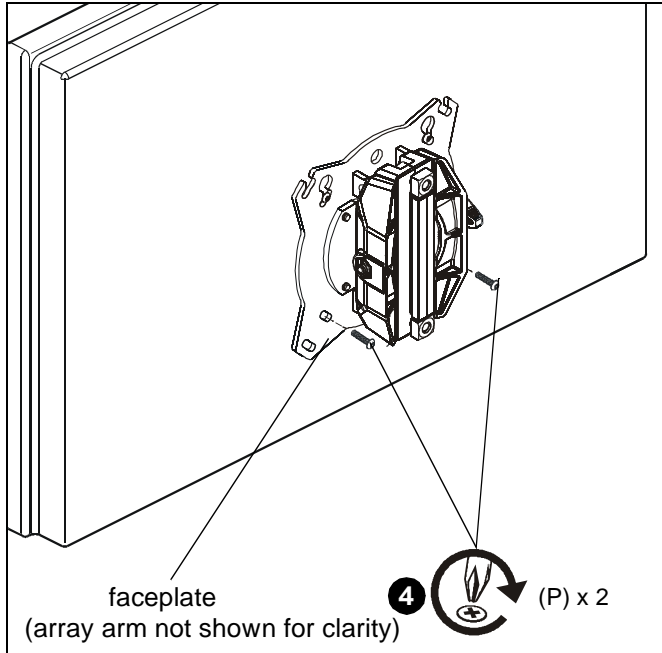

Figure 11
3. Using Phillips screwdriver, install two M4x12 mm Phillips pan machine screws (P) through the *lower* mounting holes on faceplate into the display. (See Figure 11)